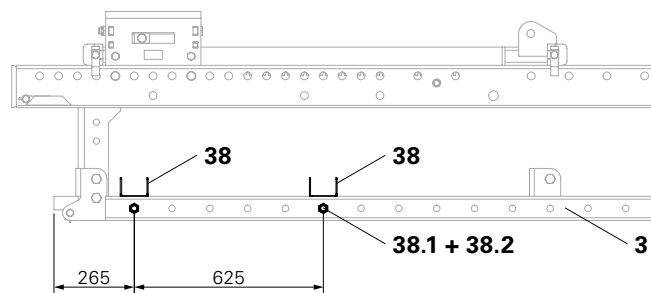

Fig. B1.08
1. Secure Girder Fixation M20 (38) to the Platform Beam Support SCS (3) using bolts ISO 4014 M24 x 130-8.8 (38.1) and nuts ISO 7040 M24-8 (38.2) – 2x. (Fig. B1.08)
2. Place Platform Beam (36) in the Girder Fixation M20 (38) – 2x.
3. Secure Platform Beams (36) using TSS Torx 6 x 40 (45) – 4x per Girder Fixation M20 (38) respectively.